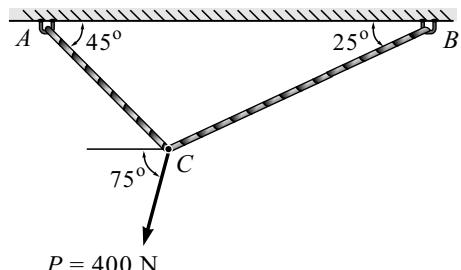

Fig. 3.E10
11. Two smooth spheres of weight 100 N and radius 250 mm each are in equilibrium in a horizontal channel of width 870 mm as shown in Fig. 3.E11. Find the reactions at the surfaces of contact *A*, *B*, *C*, *D*, assuming all the surfaces to be smooth.